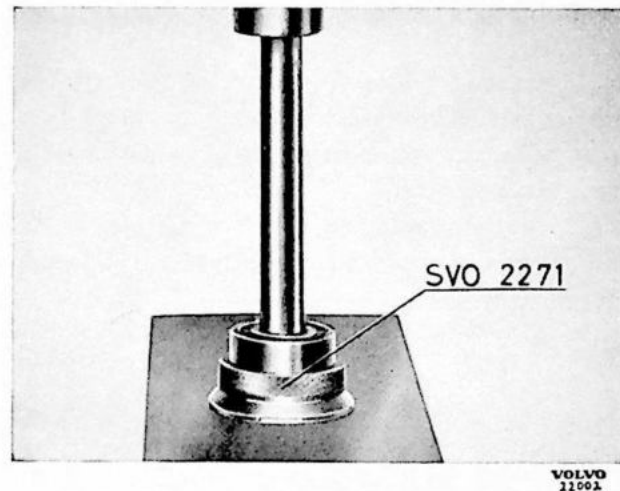

Fig. 76. Fitting the ball bearing.
1. Place the front bearing on fixture SVO 2271 with the protector plate downwards. See Fig. 76. Press down the shaft into the ball bearing so that the end of the shaft